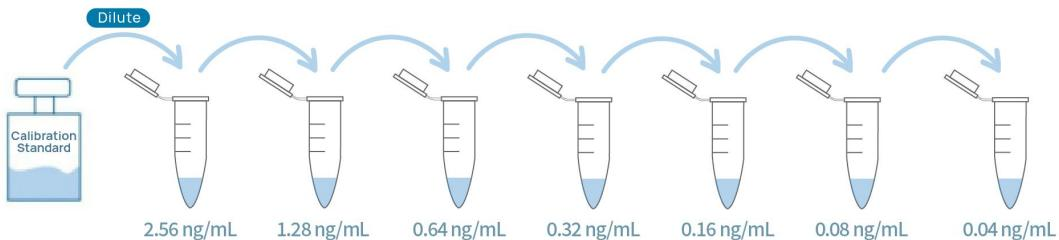

Figure 3. Graphic scheme of Trypsin Calibration Standard Solutions
- Prepare Trypsin Calibration Standard Solutions as indicated in Fig 3 and Table 3.